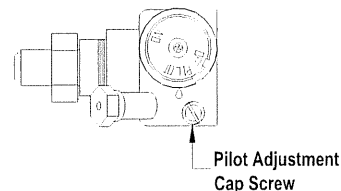

Figure 7
5. Visually check the pilot. The pilot flame should envelope the top of the thermocouple and generator 3/8" to 1/2", extend far enough onto the burner tube for proper ignition. To adjust the pilot flame (refer to figure 7):